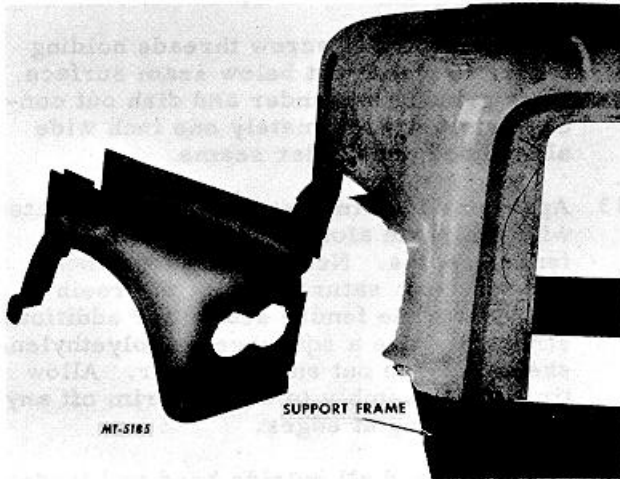

Fig. 7 Service Fender and Damaged Hood Assembly.
1. Remove and place hood assembly on level surface or support frame. See Fig. 7. Hood should be blocked so it is horizontal as nearly as possible. See Fig. 8.
- Using service fender for template, scribe line on hood and remove remaining damaged portion of hood assembly as shown in Fig. 7. Maintain a straight cut on all edges. Before making cutout, measure down one inch below scribe line to allow for service fender flange overlap over hood for firm attachment base. See Fig. 8.